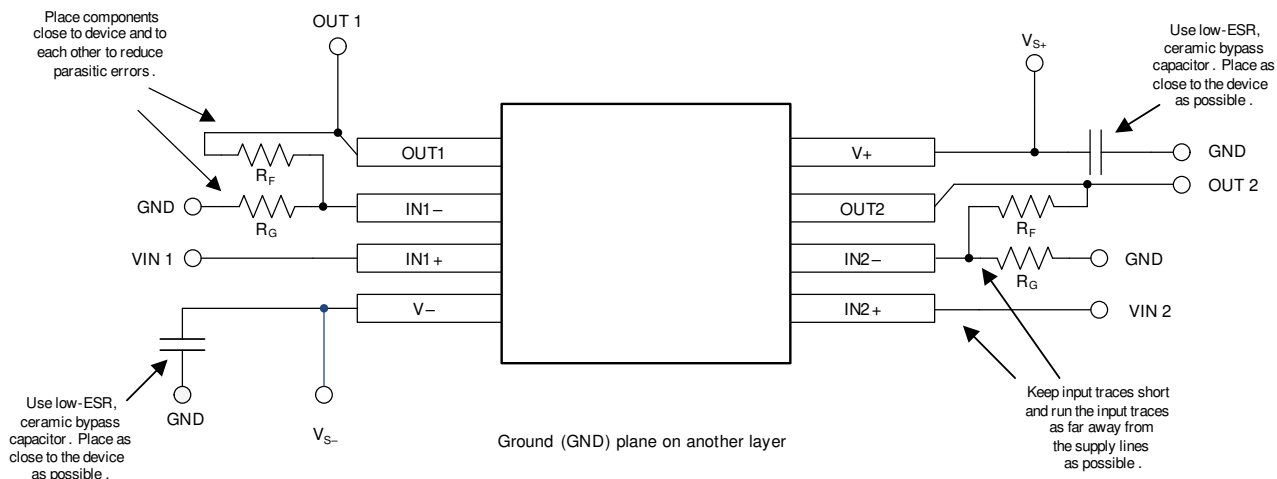

Figure 10-10. Layout Example
- Place the external components as close to the device as possible. As shown in Figure 10-10, keeping R_F and R_G close to the inverting input minimizes parasitic capacitance on the inverting input.